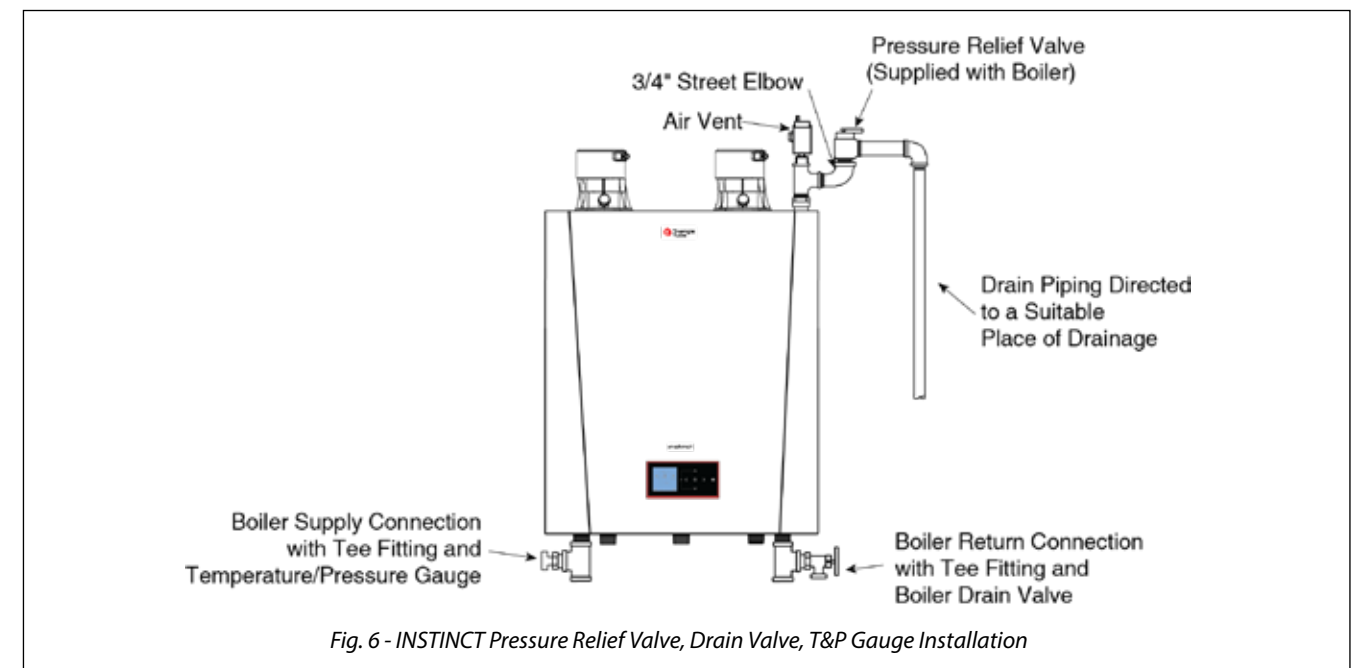

Fig. 6 - INSTINCT Pressure Relief Valve, Drain Valve, T&P Gauge Installation
1. The INSTINCT is supplied with a 30 psi pressure relief valve and must be piped using the PRV connection as shown in *Fig. 6 below*.